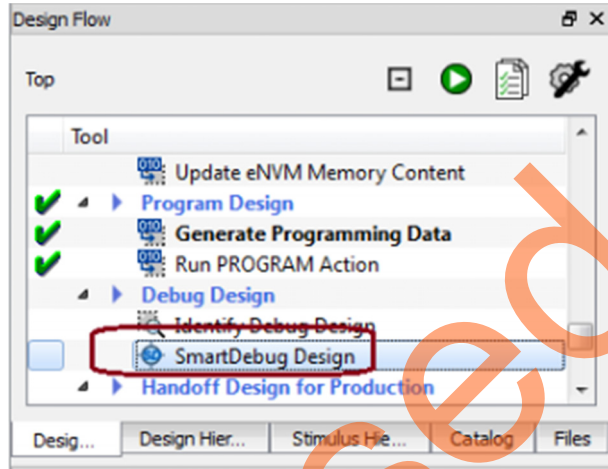

Figure 16 • Launching SmartDebug Design Tools
2. Launch SmartDebug by selecting the SmartDebug Design option from the Design Flow window as shown in Figure 16. The SmartDebug window is displayed.